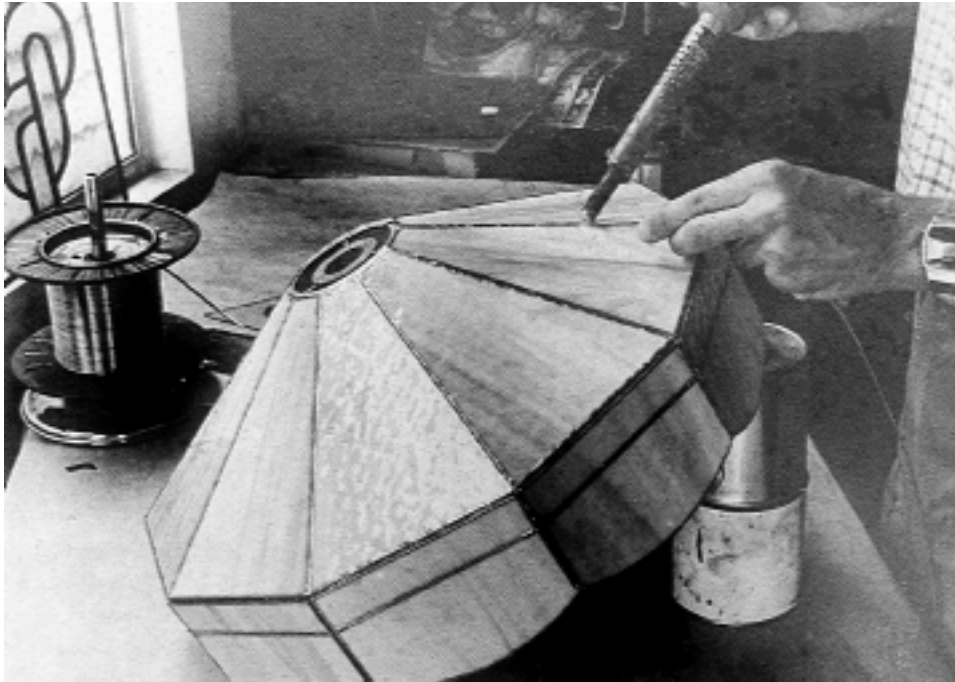
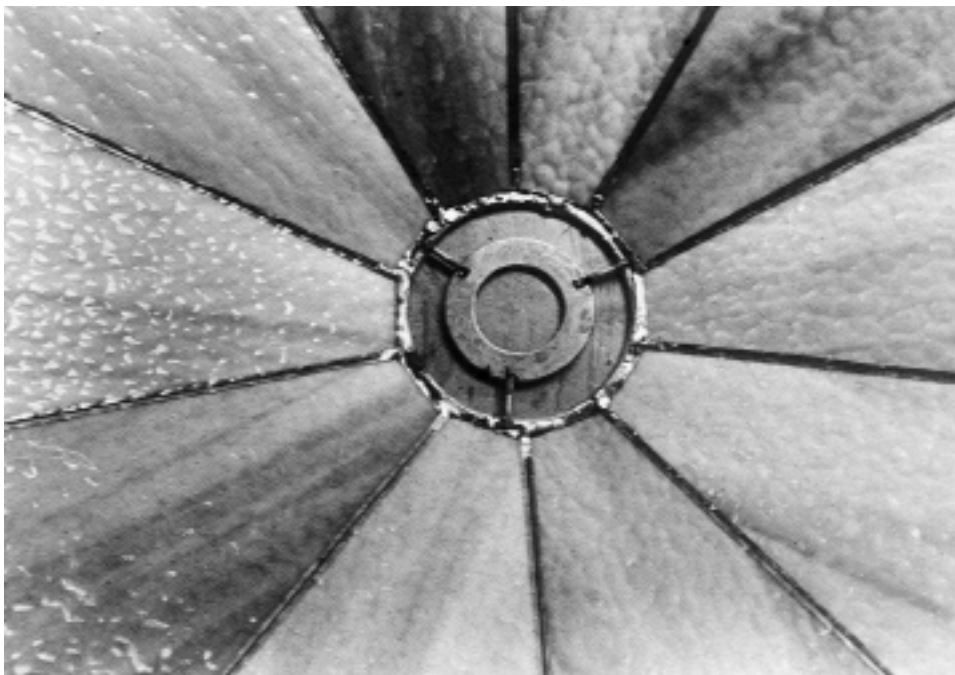

Fig 10.5
Fig 10.6
9. Solder over all the inside joints of the lamp. A raised beading is not necessary. The outside joints should be beaded, however. Tilt the lamp up to get the joint horizontal as you work on it (fig 10.5). Tin the foil edges around the bottom of the skirt and solder a 75mm (3") wire spider into the top opening (fig 10.6).